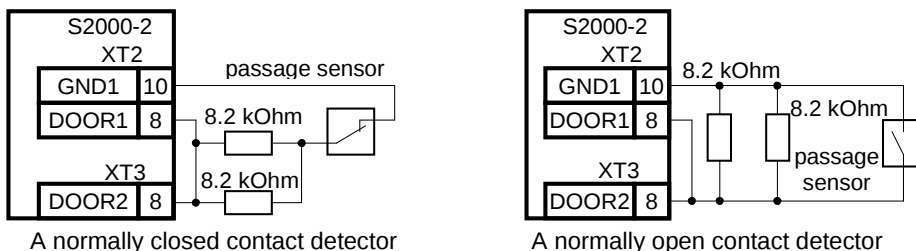

Figure 21. Connecting a Single Passage Sensor (Rotation Sensor)
4.9.2 If the turnstile is equipped with a single rotation sensor which responds for a passage in any direction, connect it in parallel to the relevant inputs of both channels of the controller as shown in Figure 21.
4.10.4 If a single passage sensor is in use instead of two passage sensors then it is to be connected in parallel across the relevant inputs of both channels of the controller (see Figure 21).